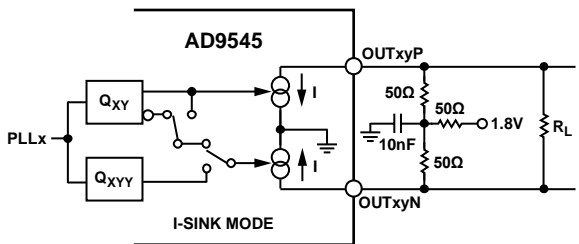
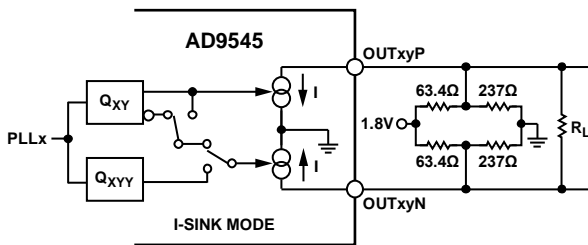

Figure 34. LVDS-Compatible Output, 1.24 V Common-Mode, T Network ( $I = 7.5$  mA;  $I = 15$  mA With Extra 100Ω Termination,  $R_L$ )
Figure 35. LVDS-Compatible Output, 1.2 V Common-Mode, Thevenin Bias Network ( $I = 7.5$  mA; 15 mA With Extra 100Ω Termination,  $R_L$ )
- The 15 mA mode produces a voltage swing and is compatible with LVPECL. If LVPECL dc signal levels are required, the designer must ac-couple and rebias the AD9545 output. The 15 mA mode can also be used with the termination scheme shown in Figure 34 and Figure 35 to produce an LVDS signal with the correct LVDS dc bias.